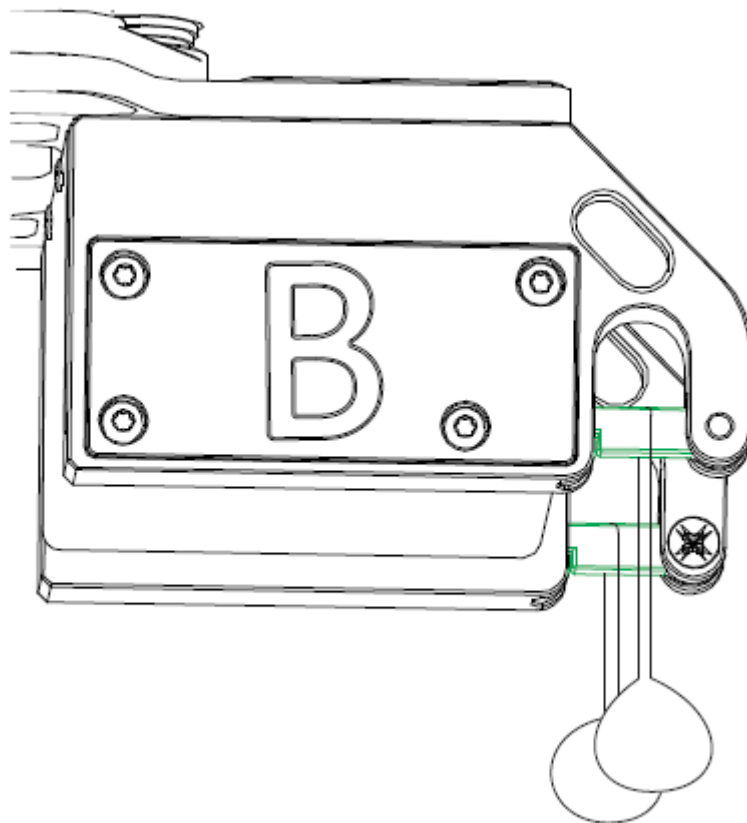

Figure 4-4
Step 2 Fix the latch fastener into the slider, and thus mount the object, as shown in Figure 4-4.